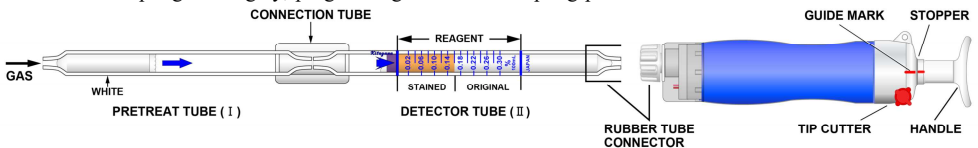

Fig.1
- ① Break both ends of detector tube and pretreat tube, and connect each end of the detector tube and pretreat tube with rubber tube connector as shown in Fig.1.
- ② Insert the detector tube into aspirating pump securely as shown in Fig.1 (Arrow mark shall point to the pump.)
- ③ Align the guide marks on the shaft and stopper of the aspirating pump.
- ④ Pull the pump handle at full stroke until it locks and wait for 1 minute or until the completion of sampling is confirmed with the flow indicator of the pump (See descriptions about the flow indicator in the instructions of the pump).
- ⑤ On completion of sampling, read the scale at the maximum point of the stained layer